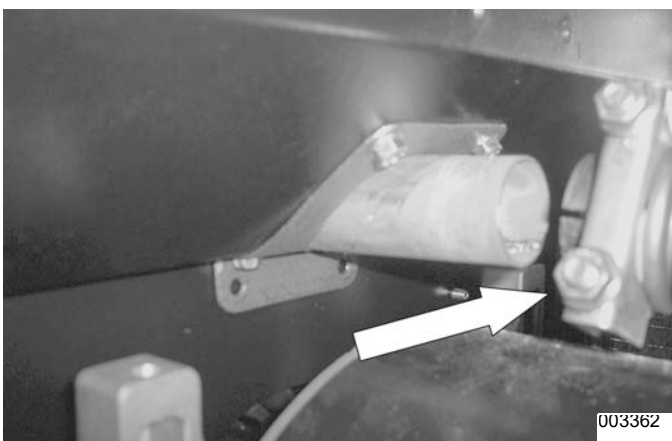

Figure 4-42.
4. **Remove Exhaust Flex Pipe:** See Figure 4-42. Use a $\frac{1}{2}$ " socket to remove the front and rear muffler clamp. Slide exhaust flex toward engine to completely expose the muffler flange.